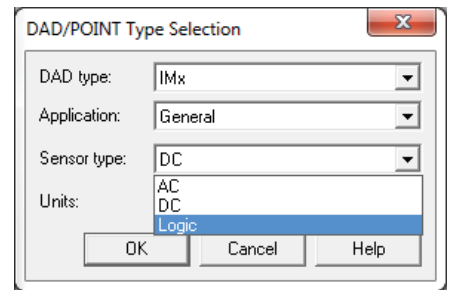

Fig. 11. Select "Logic" as the sensor type.
- 11 For logic points, repeat steps 1 and 2, then select "Logic" as the **Sensor type** (→ fig. 11). It is the only allowed state in **Units**.